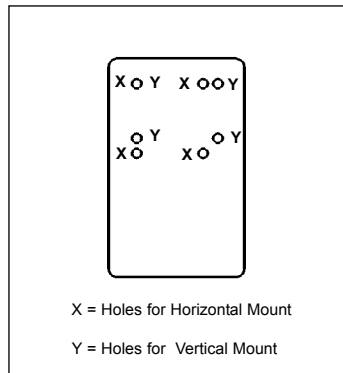

Figure 3: Back View of Stand
- For a *horizontal mount*, align the four holes on the back of the scanner with the four clearance holes located on the stand marked with an X in Figure 3.
- For a *vertical mount*, align the four holes on the back of the scanner with the four clearance holes located on the stand marked with a Y in Figure 3.